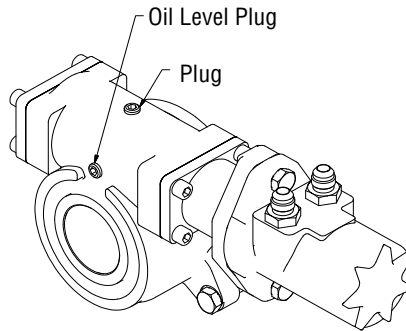

Figure 5-3, Gearbox Oil Plugs
1. Remove the top plug and the oil level plug from the gearbox. (Figure 5-3)